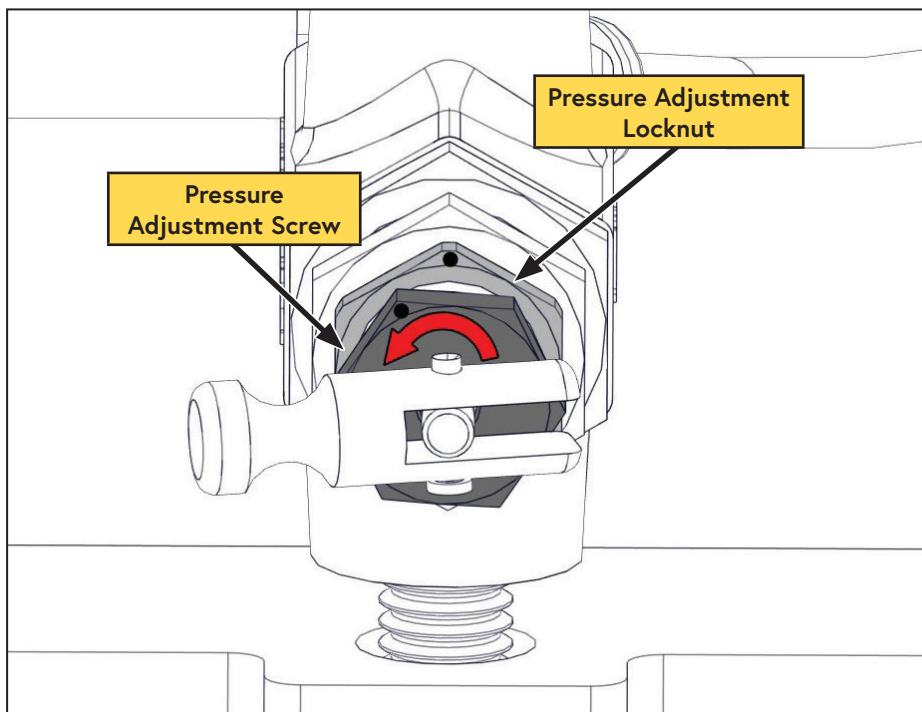

Figure 45 — Adjusting the Unloader Valve
- ☐ While securely holding the "Pressure Adjustment Screw", loosen the "Pressure Adjustment Locknut" (Figure 45).